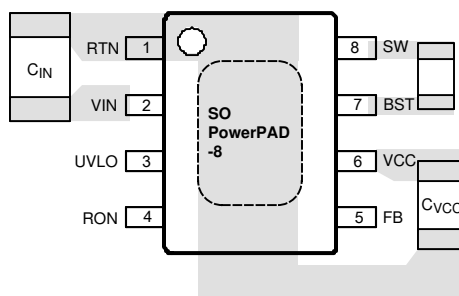

图 10-1. Placement of Bypass Capacitors
1. C_{IN} : The loop consisting of input capacitor (C_{IN}), V_{IN} pin, and RTN pin carries switching currents. Therefore, the input capacitor must be placed close to the IC, directly across V_{IN} and RTN pins and the connections to these two pins should be direct to minimize the loop area. In general it is not possible to accommodate all of input capacitance near the IC. A good practice is to use a 0.1- μ F or 0.47- μ F capacitor directly across the V_{IN} and RTN pins close to the IC, and the remaining bulk capacitor as close as possible (see Figure 10-1).
2. C_{VCC} and C_{BST} : The V_{CC} and bootstrap (BST) bypass capacitors supply switching currents to the high and low side gate drivers. These two capacitors should also be placed as close to the IC as possible, and the connecting trace length and loop area should be minimized (see Figure 10-1).